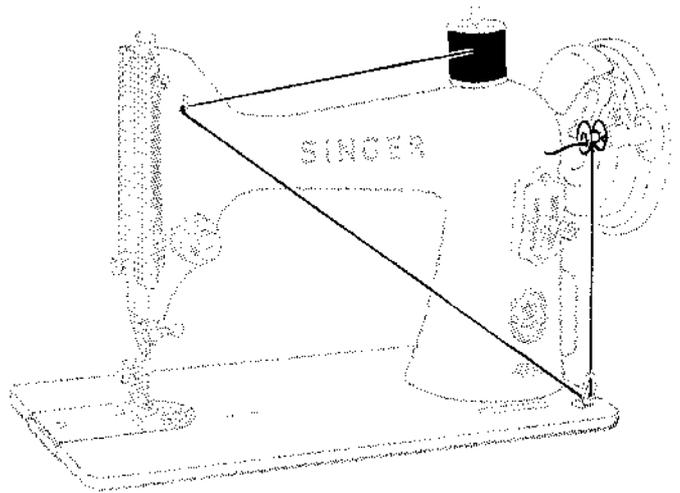

FIG. 9.
- Thread machine as shown in Fig. 9.